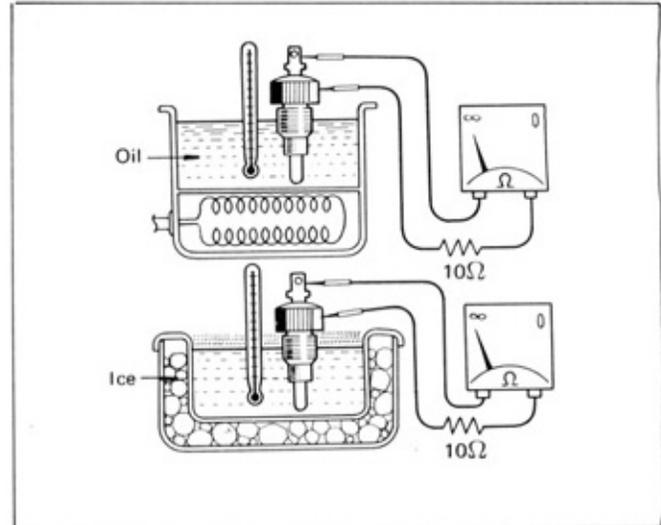

Fig. 1-12 Thermo Switch Inspection
- As shown in Fig. 1-12, heat the thermo switch in oil bath, and while noting the ON-OFF switch over with a circuit tester (ohm-meter), measure the oil temperature with a thermometer at the time the change takes place.